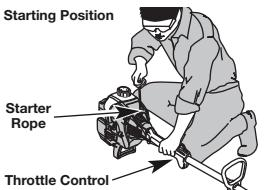

Fig. 8
WARNING: Avoid accidental starting. Make sure you are in the starting position when pulling the starter rope (Fig. 8). To avoid serious injury, the operator and unit must be in a stable position while starting.
- Crouch in the starting position (Fig. 8) and squeeze the throttle control. Pull the starter rope briskly 5 times.